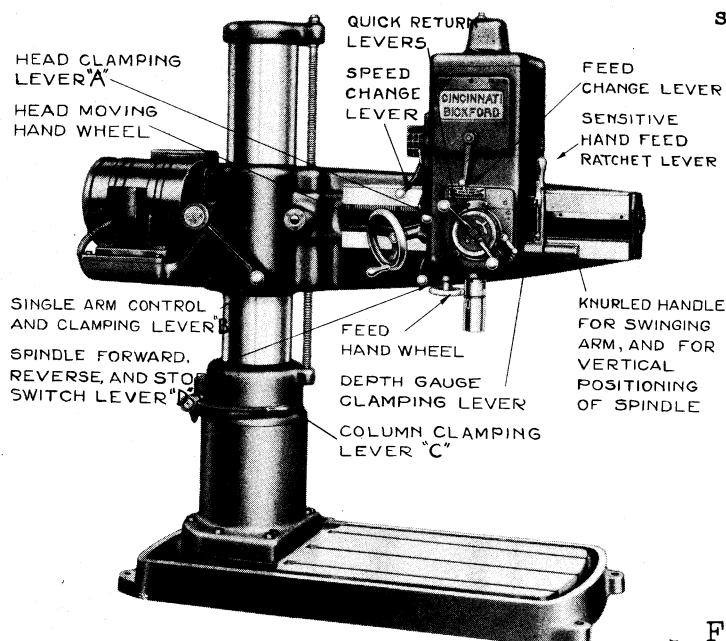

FIG. 7
2. Make certain that the three levers marked "A", "B", and "C", (Figure 7) are in the clamping position - "A" up, "B" back and up, and "C" down.
Swing the head clamping lever "A", Fig. 7, downward as far as it will go. The head may now be moved along the arm by means
Clean the spindle nose and sleeve as follows: Push the quick return levers, Fig. 7, toward the head and move the spindle downward as far as it will go. Do not raise the spindle as this will draw dirt and slushing into the spindle bearing in the head.
Before starting, put the spindle control lever "D" Fig. 7, in neutral, which is midway between its extreme positions. Push the quick-return levers, Fig. 7, toward the head as far as they will go. Put the arm control lever in the clamped position, that is back, and up as far as it will go. Then turn the machine over by hand to make sure that it revolves freely.
To advance the drill to a given depth, set the point of the drill so that it touches the work. Unclamp the graduated ring by swinging the depth gauge clamping lever, Figure 7, in a clockwise direction until it points downward.
The head is moved along the arm by means of the head moving hand wheel, Figure 7, with the head clamping lever "A" released, (pushed down). The head is square-locked to the arm and mounted on ball bearing rollers, bearing on a hardened steel arm-way. This is an exclusive feature which permits the head to be moved rapidly and very easily by hand. It makes a power rapid traverse attachment unnecessary on a machine of this size, for one turn of the hand-wheel will move the head 3 inches.
On the High Speed SUPER SERVICE Radial, a single lever ("B" Fig. 7) clamps, unclamps, raises and lowers the arm. To unclamp the arm, rotate the lever down until it can be pulled forward in the horizontal slot. To raise the arm, move the lever forward through the horizontal slot and swing upward. To lower the arm, swing downward in the forward slot. To stop the arm, put the lever back in the rear slot, and push it up to clamp the arm. This construction makes it impossible to engage the elevating mechanism while the arm is clamped to the column, or to clamp it while moving. Safety trips are provided to disconnect the power traverse when the arm is moved to its limits of travel.
sideways. Hand clamping is standard equipment on all machines. To clamp the column by hand, move the column clamping lever "C" Fig. 7, downward as far as it will go. To unclamp the column, for swinging the arm, move this lever upward as far as it will go.